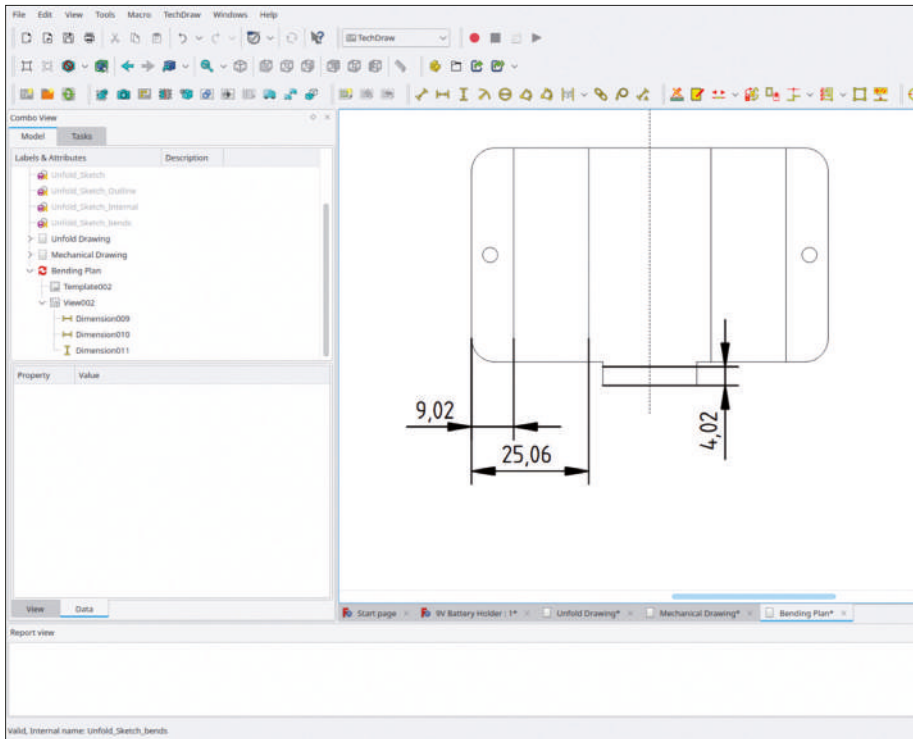

Figure 5-46
5. Add the dimensions given in Figure 5-46. These dimensions connect bending positions with outer edges, which is useful for marking with a scribe. If you have very good equipment, try the 1/100 mm for the marks on the sheet metal, or